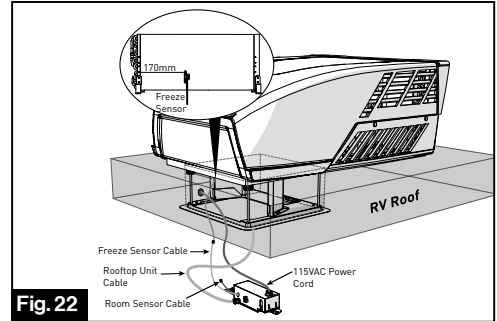

Fig. 22
2. Stick the freeze sensor onto the center bottom of the evaporator about $1\frac{3}{16}$ " (30mm) depth. Then fix it with the clamp. (Fig. 22)